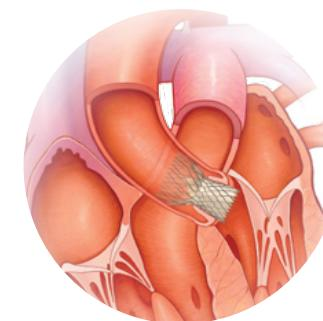

Figure 3
6. Your new CoreValve aortic heart valve will begin opening and closing; the doctor will conduct a test to confirm it is working properly. (Figure 3)